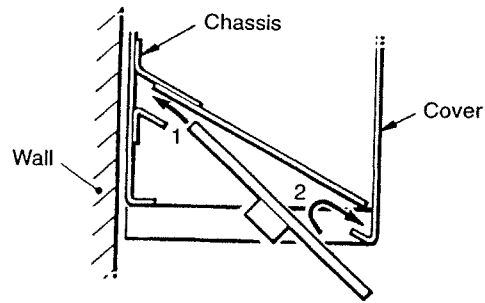

Fig. 6
2. The filter can now be fitted, see Fig. 6. Slide the filter up into the channel inside the back of the unit (1) then lift the front of the filter against the guides at each end of the chassis and slide the filter forwards to rest against the cover (2). A small handle is moulded into each end of the filter to assist removal/replacement.
4. To replace the filter, see Fig. 6. Slide the filter up into the channel inside the back of the unit (1) then lift the front of the filter against the guides at each end of the chassis and slide the filter forwards to rest against the cover (2).